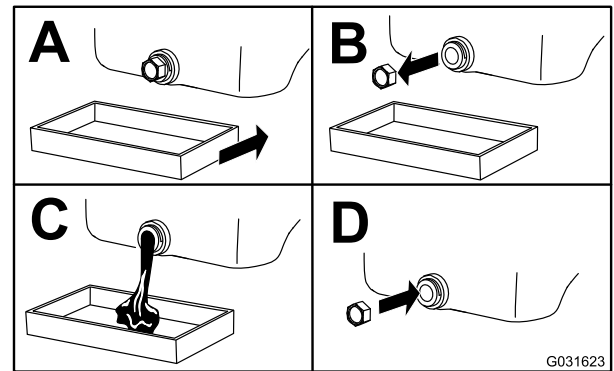

Figure 17
4. Change the oil as shown in (Figure 17).